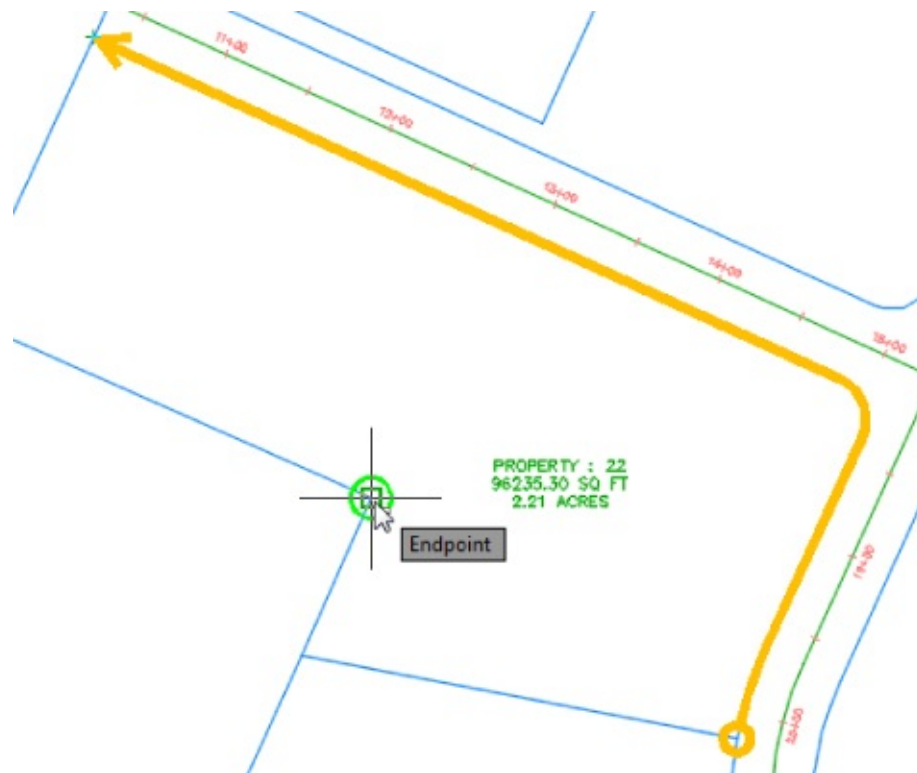

Figure 5.33 Swing point selection
13. At the Specify swing point prompt, select the interior corner of the parcel, as shown in Figure 5.33, and highlighted by the Osnap marker.